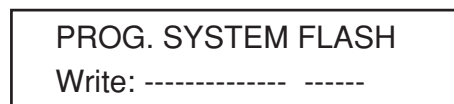

Figure 4-1-2
- e) While the firmware is being upgraded, the LCD shows a screen illustrated in Figure 4-1-2, and the INT and EXT SYNCHRONIZATION LEDs illuminate alternately.